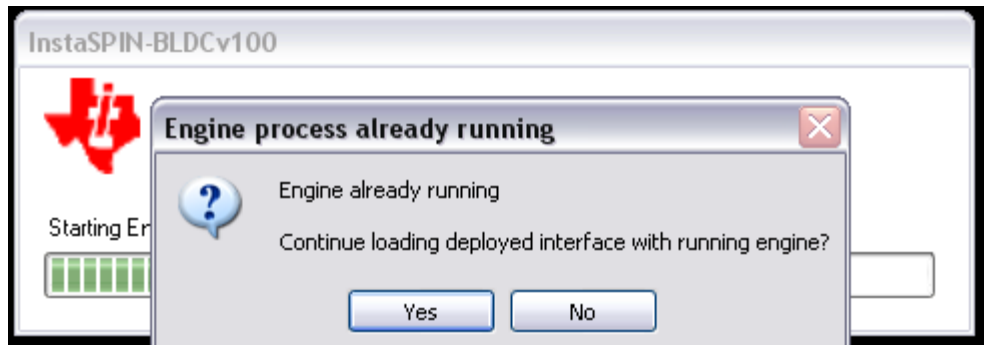

Figure 8. Engine Process Already Running
- If you see the message shown in Figure 8, click "Yes".